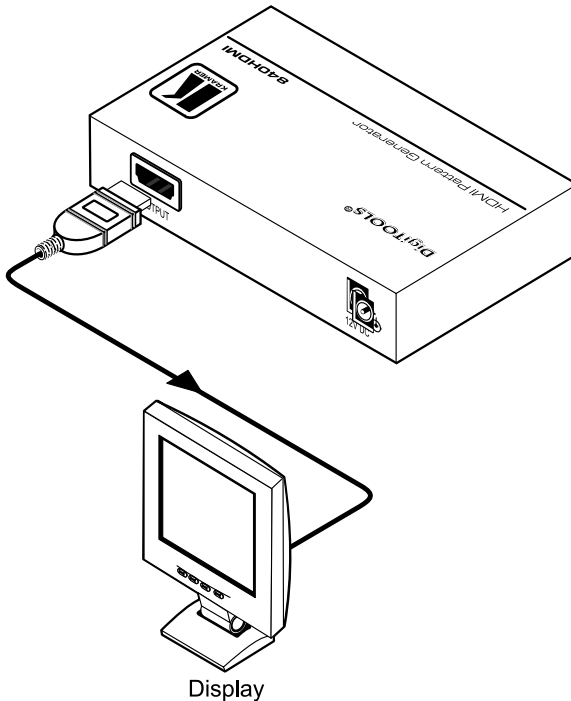

Figure 4: Connecting the 840HDMI HDMI Pattern Generator
1. Connect the OUTPUT connector to an HDMI acceptor, for example, a flat panel LCD display (as Figure 4 illustrates), or a projector or plasma screen.